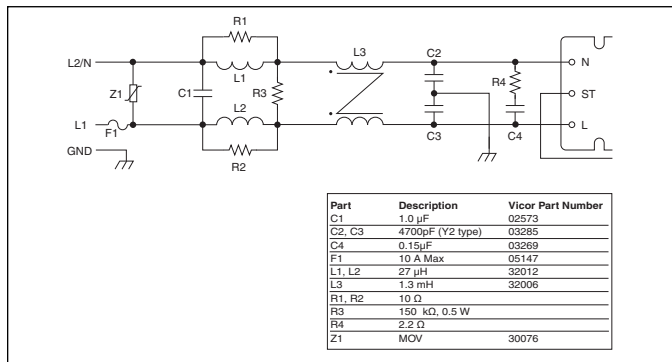

Figure 7-6a — Recommended filter design; Low power filter connection for VI-ARM-x1
**Filter.** Two input filter recommendations are shown for low-power VI-ARM-x1 and high-power VI-ARMB-x2. (Figures 7-6a and 7-6b)